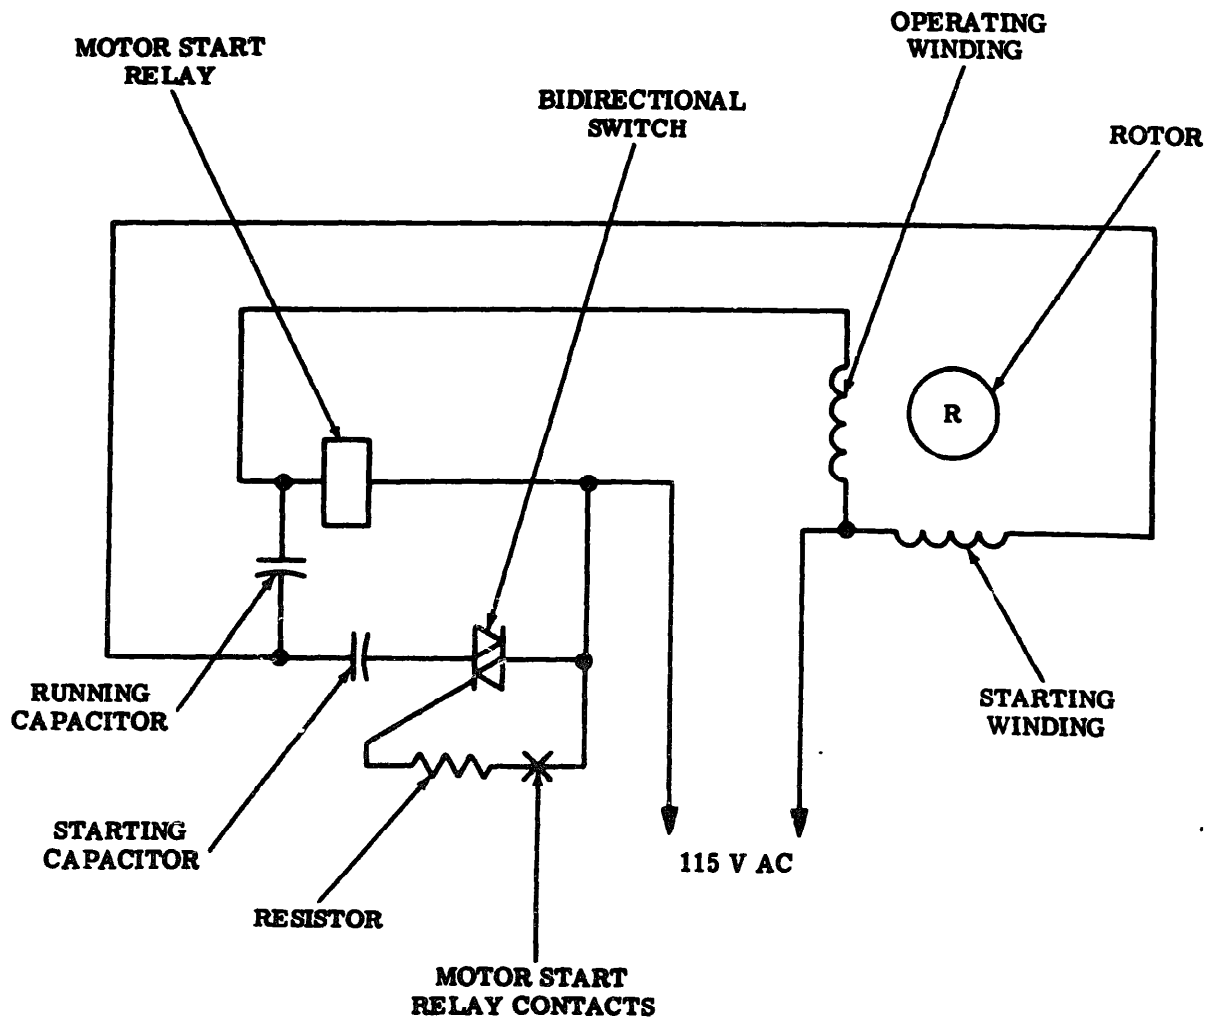

Figure 6- Typical Synchronous Motor Unit Schematic Diagram With Bidirectional Switch
3.05 The following description of operation applies to synchronous motors with a bidirectional switch (Figure 6).